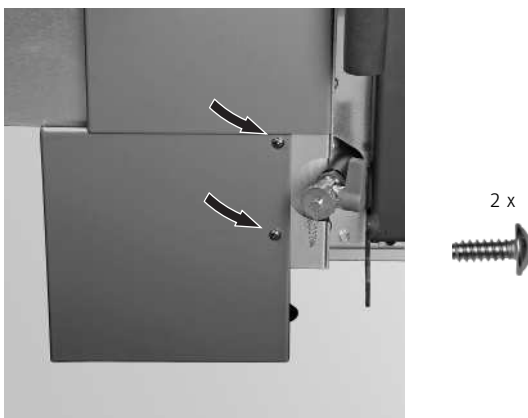

Fig. 80 Install the cover
- ▶ Fasten the bottom front cover with 2 screws – Fig. 80.